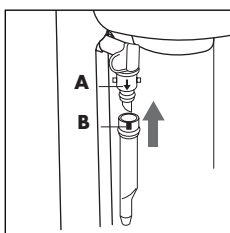

fig. 24
6. Re-attach the milk frother by inserting it onto the steam delivery tube and rotating firmly (fig. 24).